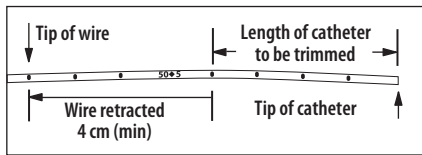

Figure 5
- To trim catheter with Catheter Trimmer, retract placement wire or VPS Stylet 1-1/2 inches minimum (4 cm) behind where catheter is to be cut (refer to Figure 5). The placement wire or VPS Stylet is to be withdrawn through the septum.